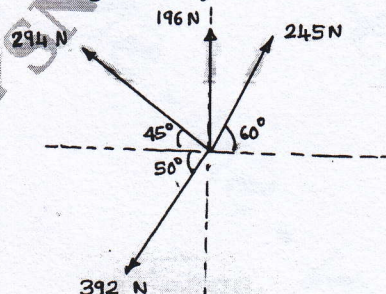

Fig Q6(a)
- 6 a. Calculate the resultant of the following force system. Shown in Fig Q6(a).